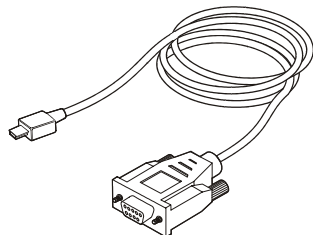

Fig. 2. Adapter DB-9 to Micro USB
- Adapter cable DB-9 to Micro USB (Fig. 2). To be used for 434-II/435-II/437-II (Series II).
Before you connect the PM8907/808 to the local line, first check the preselected voltage setting on this unit. You can find the voltage selector switch on the bottom of the PM8907/808. If necessary, select the corresponding line voltage with the slide switch and ensure that the proper voltage is visible in the window of the slide selector. (see Fig. 2.)